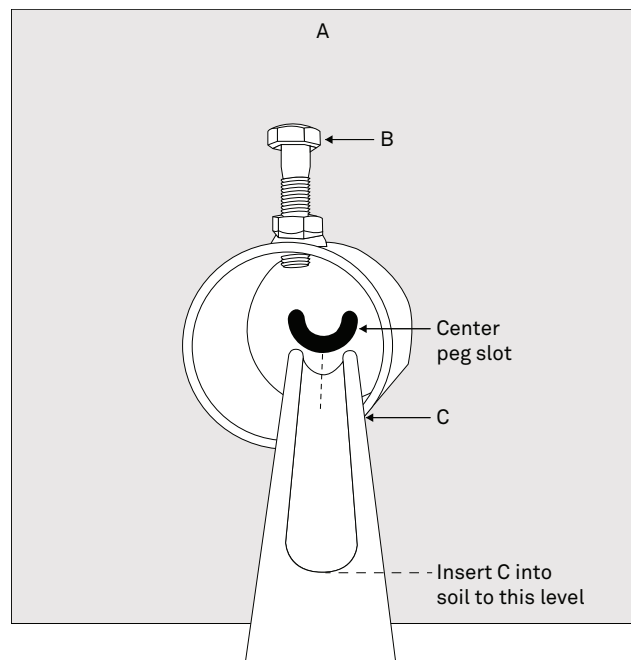

Figure 1 Set up the mast (E)
1. Set the base plate (A) in the desired level location.
2. Align the center peg (C) with the center peg slot (Figure 1).
3. Insert the center peg (C) firmly in the soil until the entire lower portion is under ground (Figure 1).
4. Place the mast (E) over the center peg (C) and seat the mast in the base plate (A) circular housing.
5. Carefully tighten the set screw (B) (Figure 1).